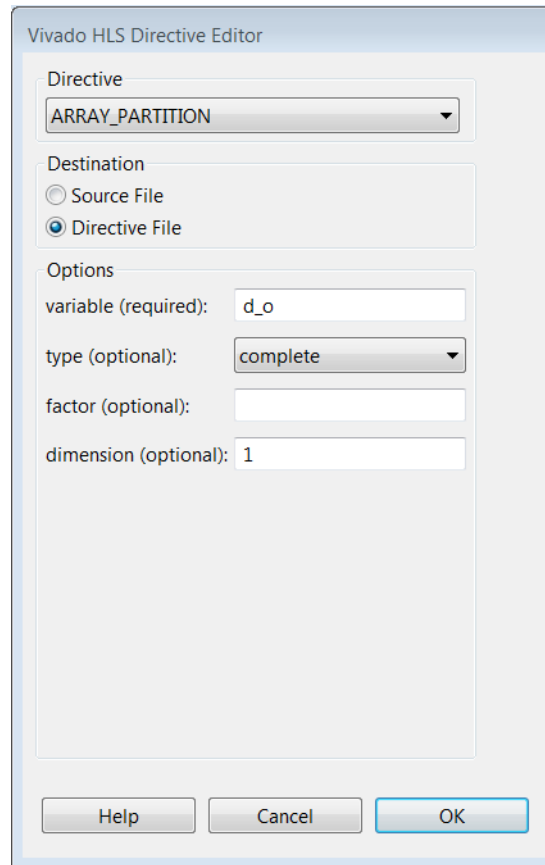

Figure 4-26: Directives Editor for Partitioning Array d_o
- c. With the Directives Editor as shown in Figure 4-26, click **OK**.